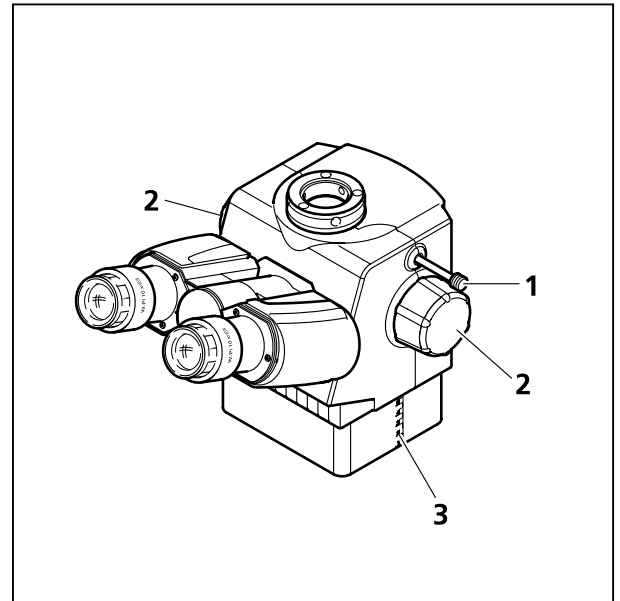

Fig. 4-31 Binocular ergo tube
- Vertical adjustment is done with the turning handles (Fig. 4-31/2).
- Check the adjustment path on the side scale (Fig. 4-31/3).
- Push rod (Fig. 4-31/1) inserted:
- Push rod (Fig. 4-31/1) pulled out: